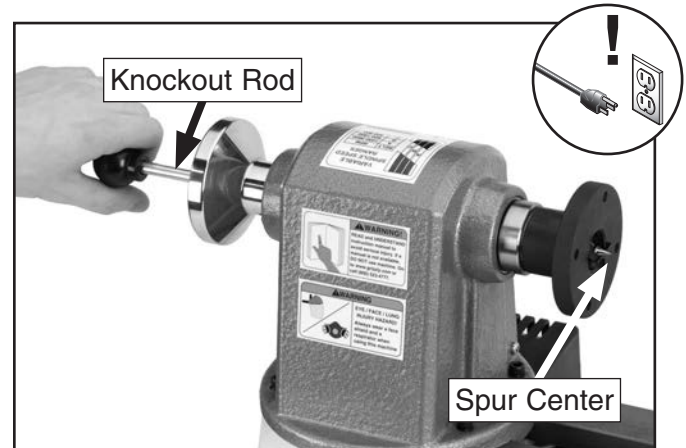

Figure 26. Typical spur center removal from headstock spindle.
2. Insert knockout rod into outboard end of spindle. Use a shop rag or wear a glove to catch center and gently tap rod handle until spur center is freed from spindle (see **Figure 26**).